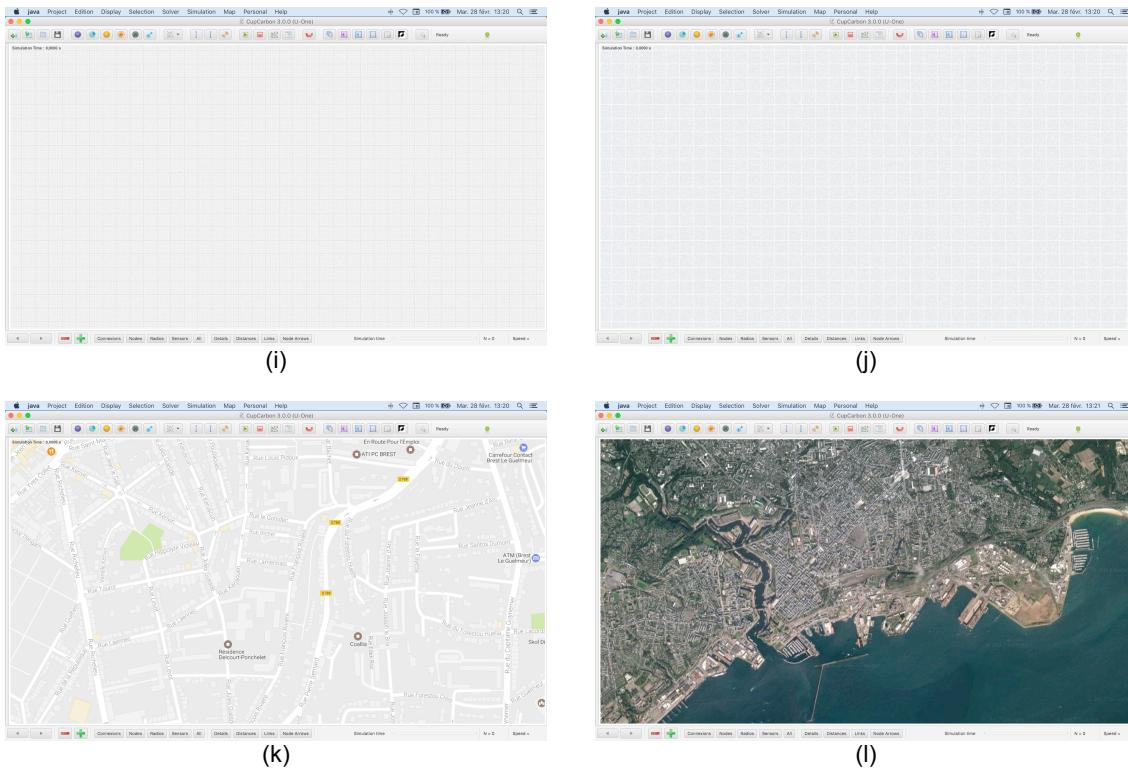

Figure 2 Maps of CupCarbon.
- The map is the main object of the simulator CupCarbon. It is the part where the network and the objects of the project can be designed. The map can be changed according to the preference of the user or the way the information must be presented. Figure 2 shows the 12 possible maps or backgrounds, that are: